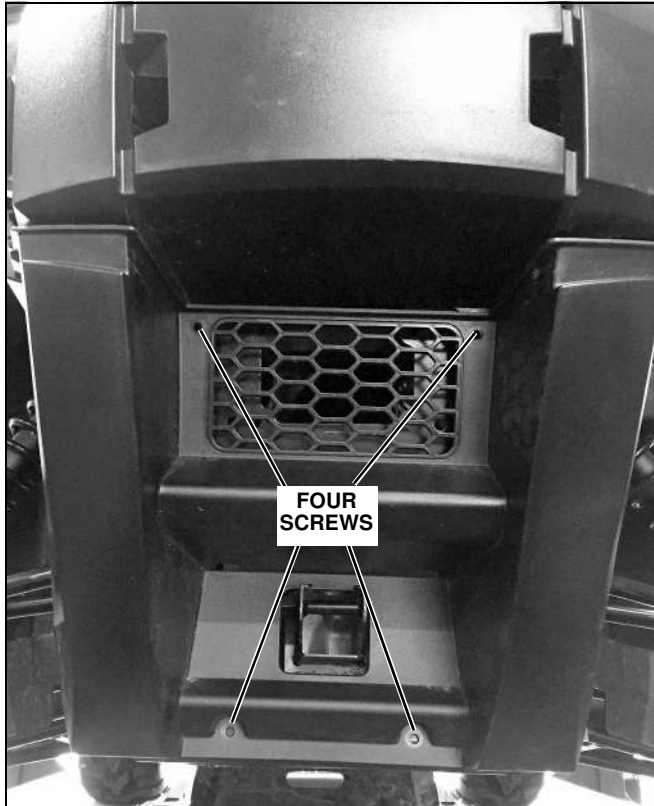
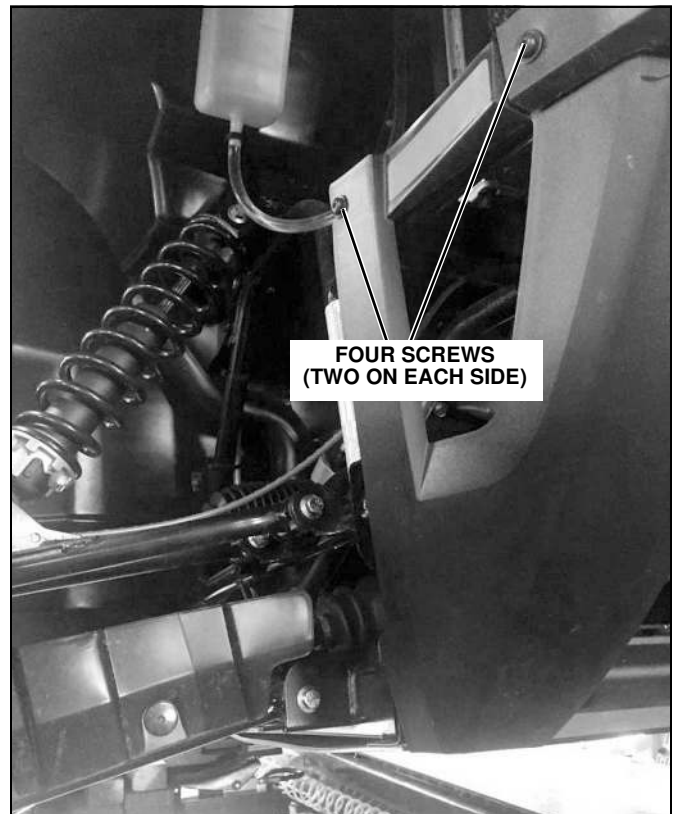

Figure 1
Figure 2
(See Figure 1 and Figure 2.) Remove lower grill.
15. Replace and tighten the 8 screws that hold the grill in place. (See Figure 1 and Figure 2.)